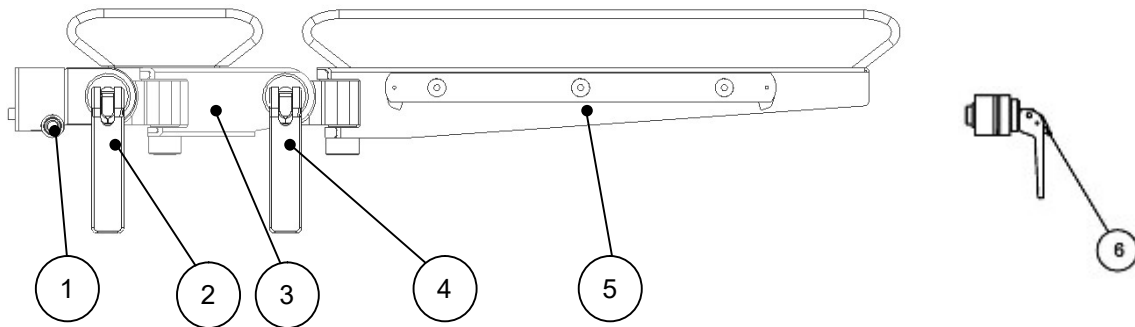

Fig. 14 Handling of the divided footrest
A mechanism triggered by a push button (fig. 14, pos. 1) allows the divided footrests (fig. 14) to be put on and taken off the seat. In order to take off the footrest, hold it from below and, with the button pushed in, lift it up until it is taken off the wedge spigot in the seat (fig. 1.1, pos. 4). The footrest is mounted by placing the its wedge socket on the wedge spigot in the seat. In order to do that the button
In order to change angular and rotational deflexion of the short part (fig. 14, item 3) or the long part (fig. 14, item 5) of the divided footrest, grab the footrest segment from the bottom with one hand and push the blockade with the thumb of the other hand (fig. 14, item 6). Pushing the blockade enables opening the handle (fig. 14, item 2 or 4). Once the handle is open, place the selected footrest segment in desired position in relation to the two rotation axes and lock it with by closing the handle. After closing the handle lock should return to its initial position, preventing repeated opening of the handle.